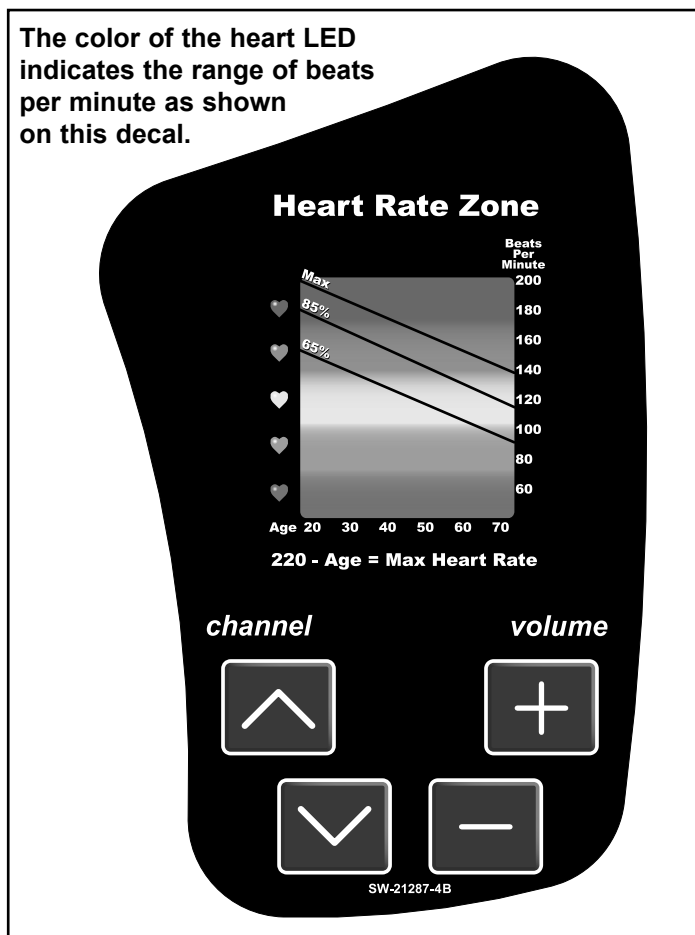

Figure 4
When the handgrips are held the center display switches to show the heart rate in beats per minute (BPM) if you are not scanning. For several seconds the display will show "---". Once the actual heart rate is determined the center window displays the BPM and the Heart LED lights up. See Figure 4. The color of the light represents a scale of low to high target heart rate.
**NOTE:** A label is on the console to remind you what the color represents while you are working out. See Figure 4.